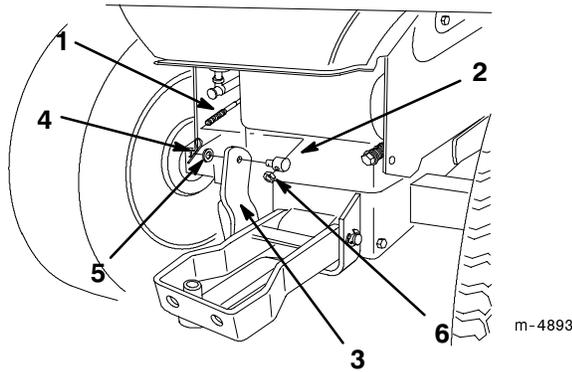

Figure 6
4. Thread the trunnion on to the free end of the lift cable (Fig. 6).
5. Attach the trunnion to the hole in the lift cable mounting bracket with a 1/2 inch washer and a 1-1/2 inch hairpin cotter (Fig. 6).
- Secure the lift cable to the trunion with a locknut (Fig. 6).